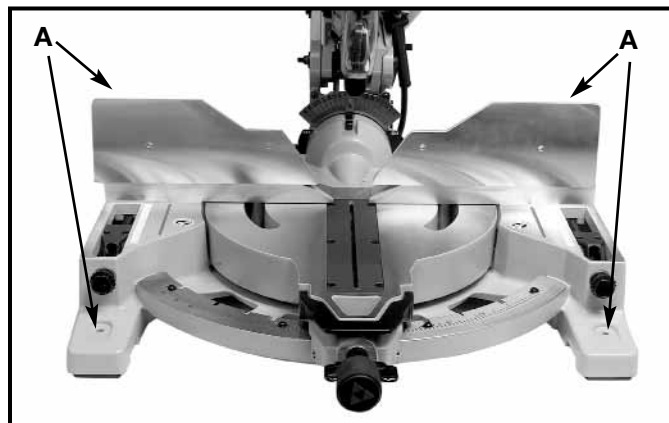

Fig. 9
Before operating your compound miter saw, firmly mount it to a workbench or other supporting surface. Four holes (A) Fig. 9 are provided for fastening the saw to a supporting surface.